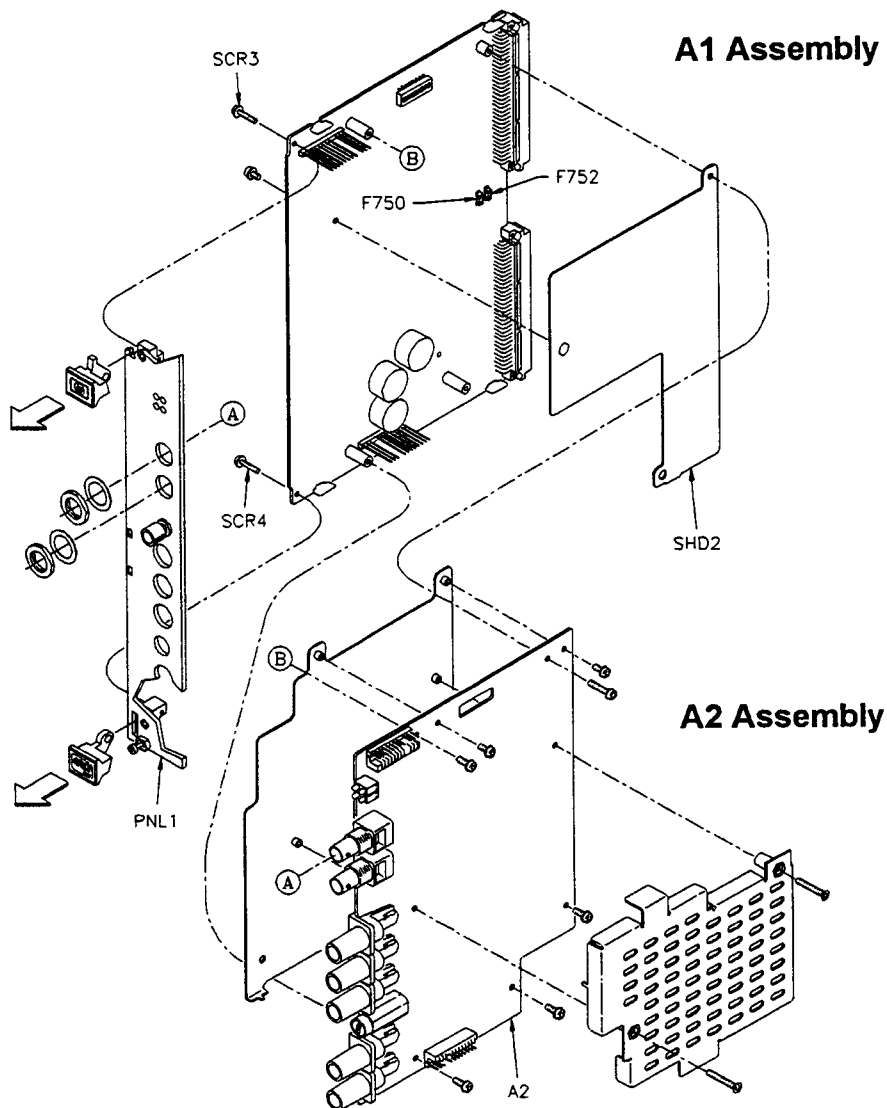

Figure 8-2. Disassembly/Reassembly of HP E1312A.
Refer to Figure 8-2 and use the following steps to disassemble the HP E1312A.
Refer to Figure 8-2 and use the following steps to reassemble the HP E1312A:
- Step 1** Disassemble the module according to Figure 8-2 or 8-3 and the associated procedure.
- ① Disassemble the module according to Figure 8-2 or 8-3 and the associated procedure.